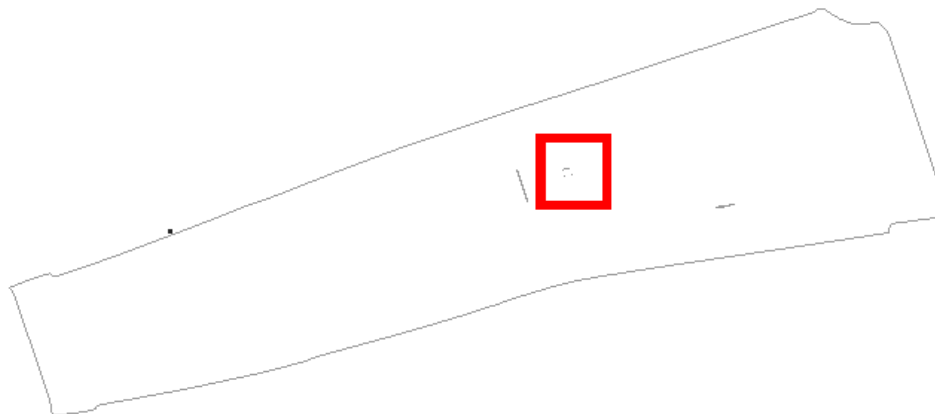

Figure 18. Zone in the mesh to zoom in.
- 1 . With the option **View->Zoom In**, magnify the zone illustrated in Figure 18.